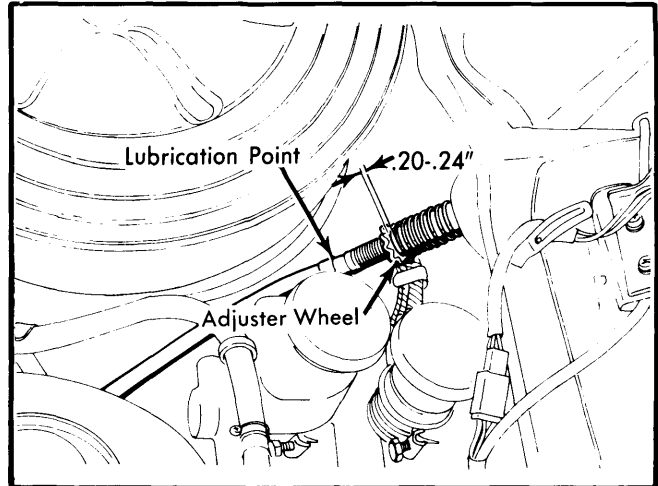

Fig. 4 Clutch Cable Adjustment Procedure and Lubricant Point
- 2) Set cable-to-adjuster wheel clearance to .20-.24" (5-6 mm). See Fig. 4.